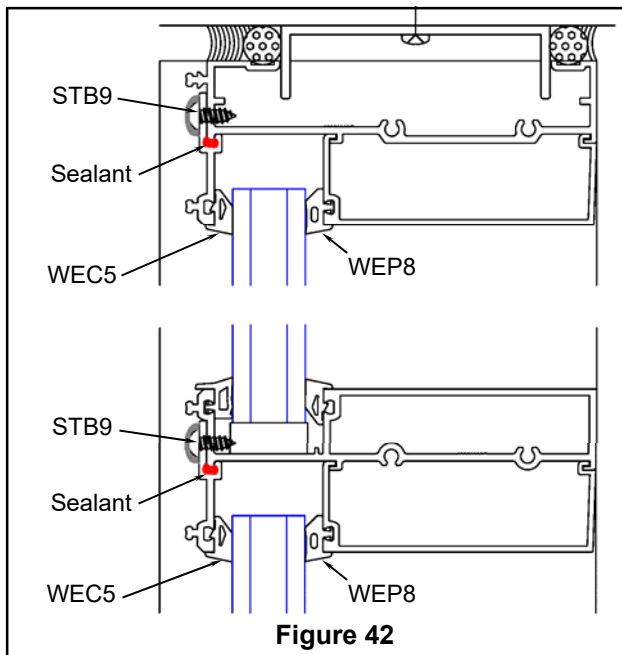

Figure 42
- * Run a continuous bead of sealant along face of horizontal to take re-glaze bead. (see figure 42)
- * Screw apply the re-glaze bead using STB9 screws. Seal heads of all fasteners. (see figure 42)